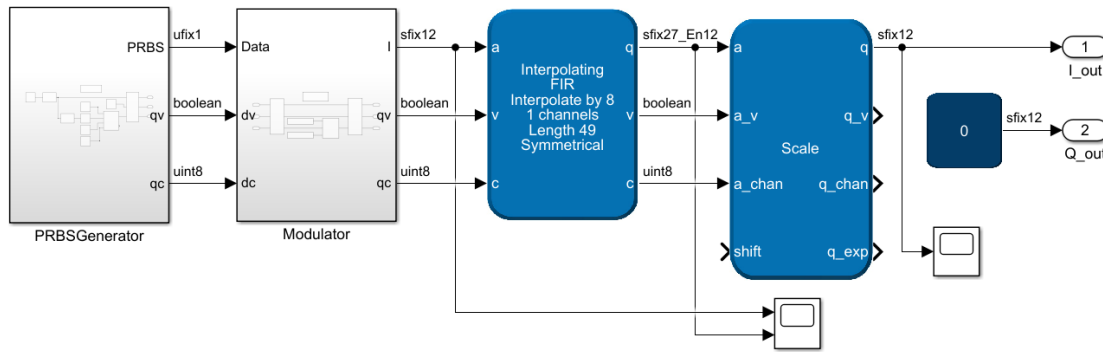

Figure 3: Signal path of the transmitter.
- Inside the *TransceiverBPSK* subsystem, add an *InterpolatingFIR* block from the **DSP Builder for Intel FPGAs - Advanced Blockset/IP/Channel Filter And Waveform** library. Open its settings and set the **Input Rate per Channel/MSPS** to `dataRate/1e6`, **Interpolation** to `sampleRate/dataRate`, **Number of Channels** to 1, and **Coefficients** to `filter.coefs`. Since you will not update the coefficients when running the system, you can also change **Read/Write Mode** to **Constant**, as this will reduce the hardware utilization. Click **OK** when finished. Connect the *InterpolatingFIR* to the *Modulator* submodule as shown in Fig. 3.
- Connect a two input *Scope* to the data input and output of the FIR filter, so that you can study it later. The finished transmitter signal path should look similar to Fig. 3.